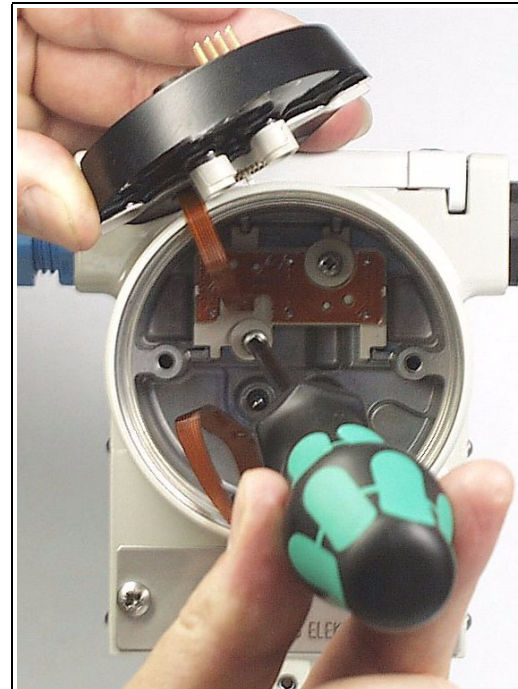

Figure 17 Unscrew or tighten the keypad circuit board from/on the bottom of the housing as of product release 30
6. The following applies for the electronic block with a separate conductor band for the keypad connection (as of product release 30): Carefully remove the measuring cell board that connects the measuring cell with the electronics (Figure 14, page 61). Unscrew the keypad circuit board from the bottom of the housing and remove it (Figure 17, page 61). Position the keypad circuit board for the new electronics onto the threaded bolts on the bottom of the housing and screw them in snugly. Attention: If the electronics have been supplied with two conductor bands the first time then, by inserting and tightening the screws that have been